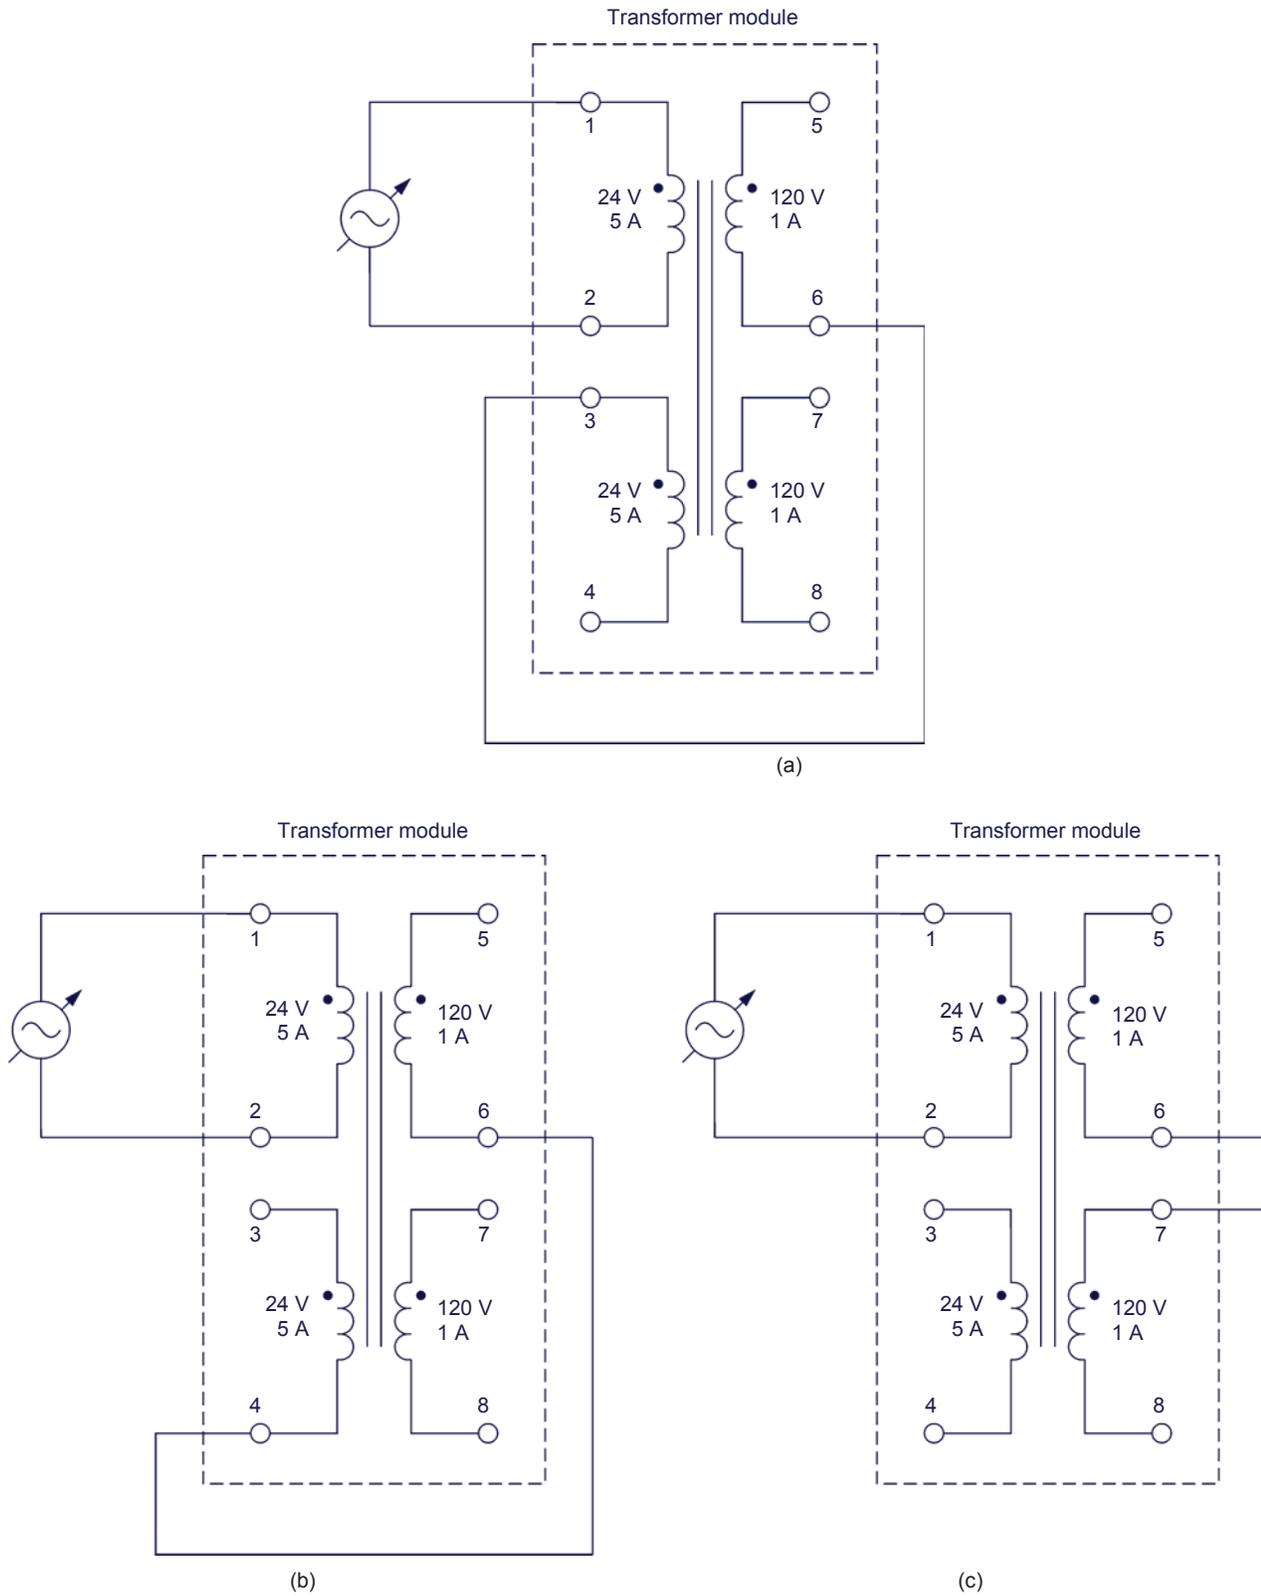

Figure 16. Different series connections of transformer windings.
14. Consider the three transformer connections shown in Figure 16.
In all the transformer connections of Figure 16, the capacity of the transformer is limited to 120 VA, because all power is transferred through primary winding 1-2, which is rated 24 V and 5 A.